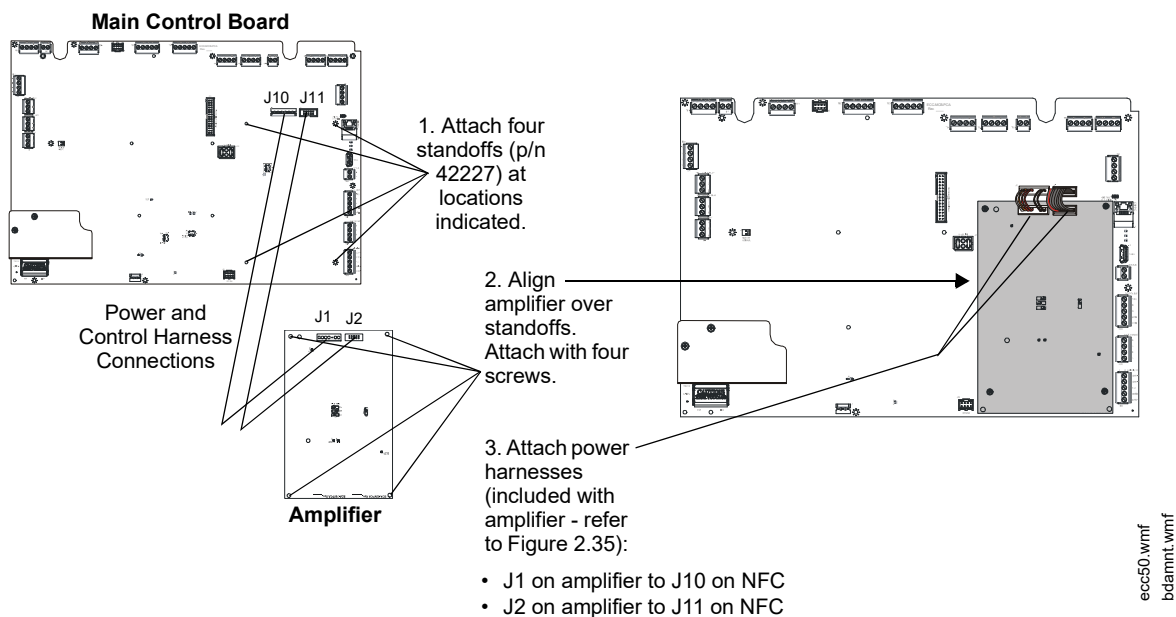

Figure 2.34 NFC-BDA-25/70V Installation
Figure 2.34 shows the installation of a NFC-BDA-25/70V onto an NFC-50/100 panel. The optional amplifier may be programmed and wired for backup or for providing a second audio channel.
1. Remove mounting screws shown, from the main control board, and save (refer to Figure 2.34).